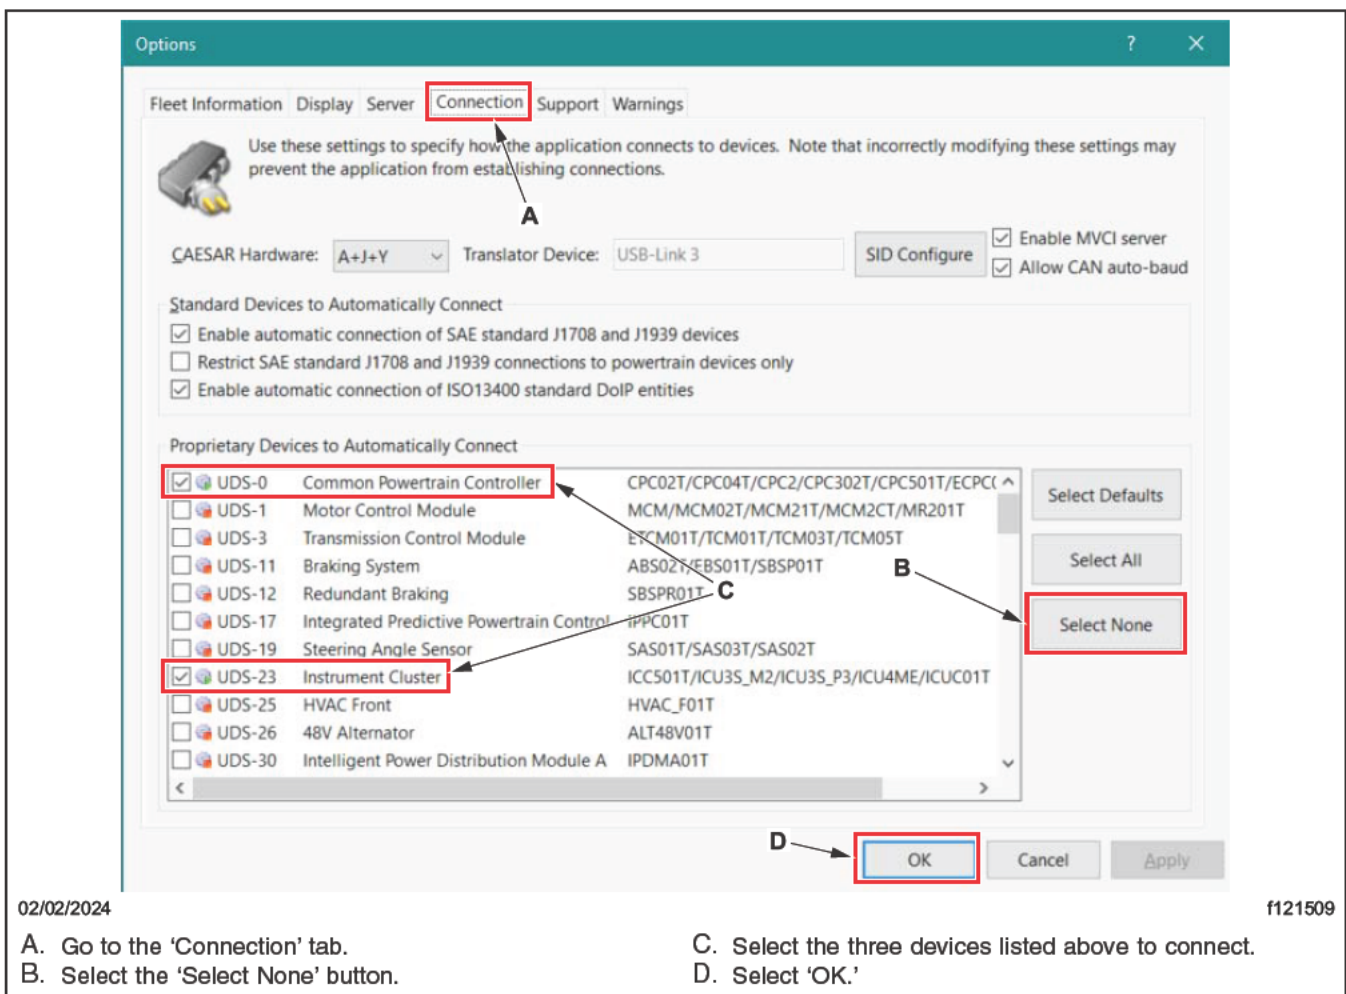

Fig. 34, Connection Tab in the Options Window
- 17.3 In the 'Options' window, go to the 'Connection' tab. See Fig. 34.
- 17.4 Select the 'Select None' button. See Fig. 34.
- 17.5 In the 'Proprietary Devices to Automatically Connect' panel, choose only the three devices listed below, then select 'OK.' See Fig. 34.